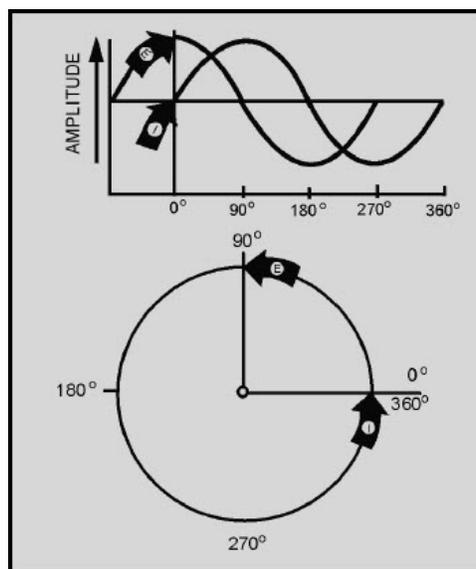

Figure 4-2 Comparison of sine wave and circle in an inductive circuit
As you know the sine wave can be compared to a circle. Just as you mark off a circle into 360 degrees, you can mark off the time of one cycle of a sine wave into 360 electrical degrees. This relationship is shown in figure 4-2. By referring to this figure you can see why the current is said to lag the voltage, in a purely inductive circuit, by 90 degrees. Furthermore, by referring to figures 4-2 and 4-1(A) you can see why the current and voltage are said to be in phase in a purely resistive circuit. In a circuit having both resistance and inductance then, as you would expect, the current lags the voltage by an amount somewhere between 0 and 90 degrees.